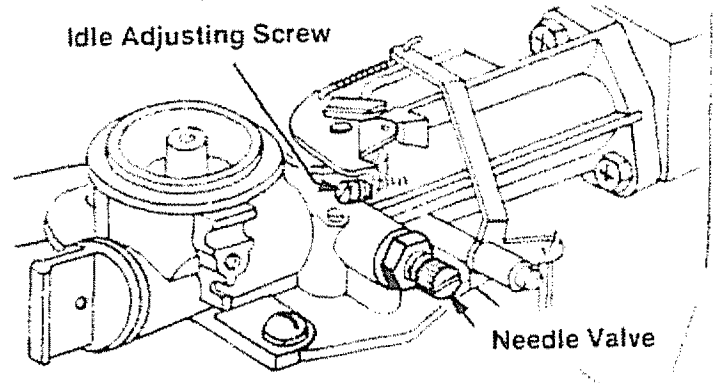

FIGURE 46.
- A. INITIAL ADJUSTMENT. See figure 46. Close needle valve (turn clockwise) then open 1½ turns (turn counterclockwise). This initial adjustment will permit the engine to be started and warmed up before making final adjustment.
- B. FINAL ADJUSTMENT. See figure 46. With engine running at fast operating speed (approximately 3,000 RPM without load) close the needle valve (turn clockwise) until engine starts to lose speed (lean mixture). Then slowly open needle valve (turn counterclockwise) past the point of smoothest operation until engine just begins to run unevenly. This mixture should be rich enough for best performance under load. Hold throttle in idling position. Turn idle speed adjusting screw until fast idle is obtained (1,750 RPM). Test the engine and if it tends to stall or die out, it usually indicates that the mixture is slightly lean and it may be necessary to open the needle valve slightly to provide a richer mixture. This richer mixture may cause a slight unevenness in idling.